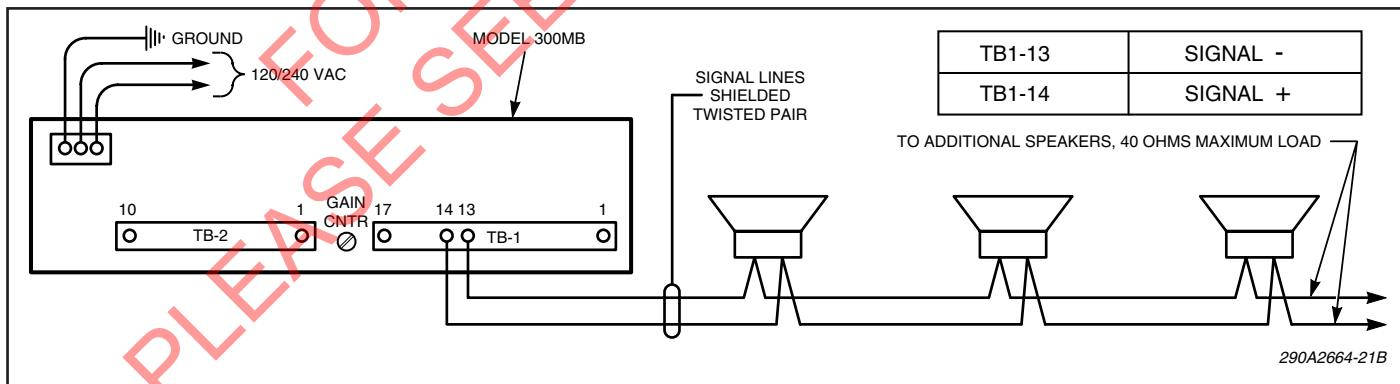

Figure 3-7. Model 300MB with 25VRMS Connections.
C. 300MB Driving a 25Vrms Speaker Line (see figure 3-7).